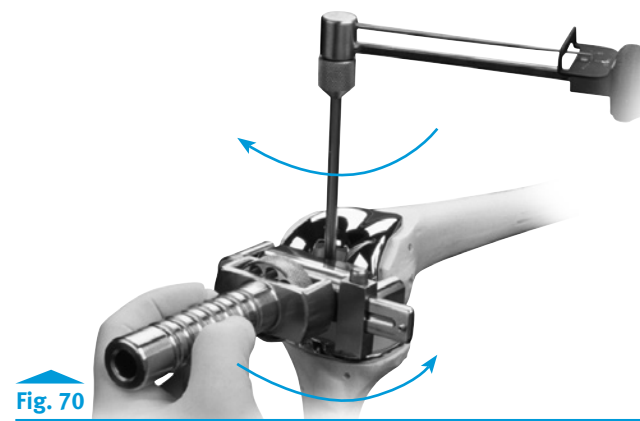

Fig. 70
- While using the Spanner Wrench to apply a counter rotation force, use the torque wrench to apply 130 in-lbs of torque until the needle reaches the appropriate mark (Figs. 70 and 71).